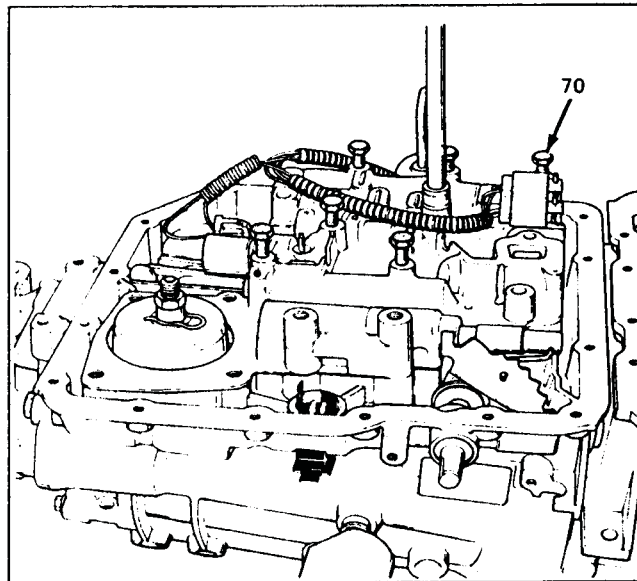

Figure 128
16. Install seven valve body bolts in the positions shown in Figure 128, and torque to 14 ft.lbs, using a 13mm socket.